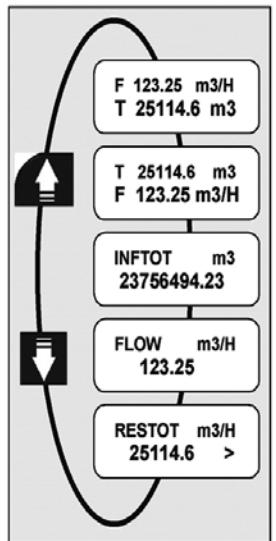

Figure 12 – View Level
- To select the item you want displayed, press UP or DOWN arrows (Figure 12)